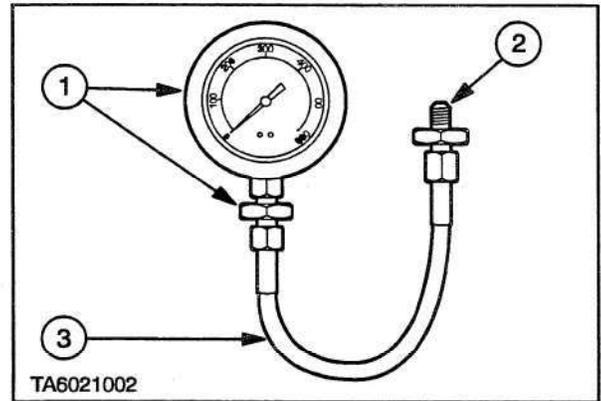
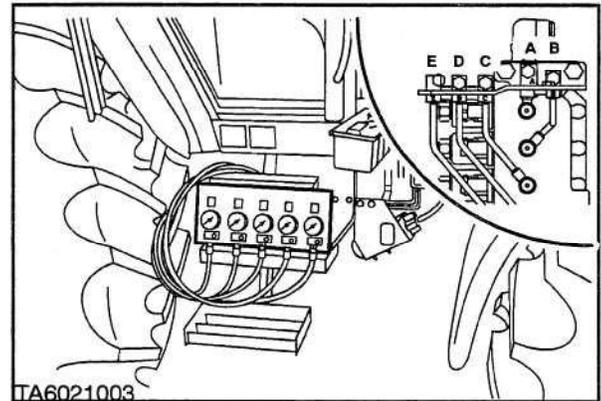

Figure 4-2-6
Figure 4-2-7
2. Install suitable pressure gauges (0–600 lbf/in², 0–40 bar), five if available, into each of the clutch pressure test points, located in the raised horizontal manifold, under the right hand foot step. Figure 4-2-7. Reference Figure 4-2-6 for gauge, hose and adaptor details: